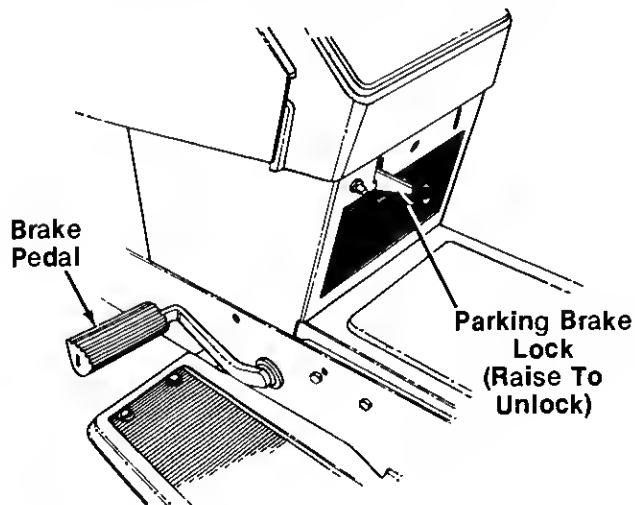

FIGURE 10.
1. Depress the brake pedal, release the parking brake lock, and let the pedal up. See figure 10. Move the throttle lever to the position where the engine operates best for the load to be handled.